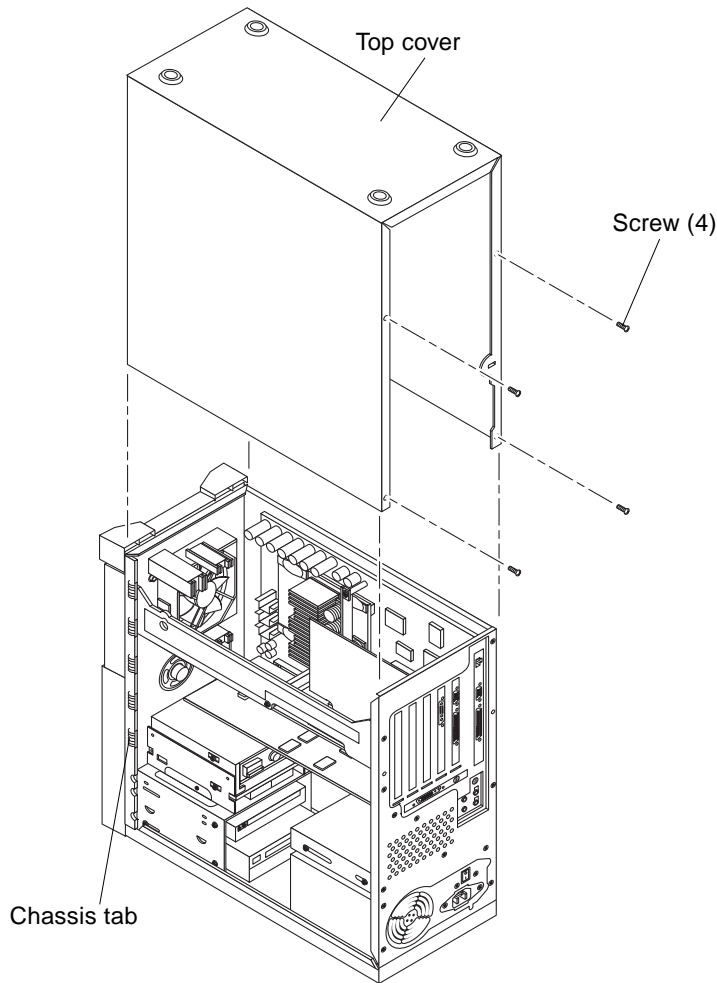

FIGURE 6 Removing the Ultra 10 Top Cover
1. Position the system upside down on its top (FIGURE 6).